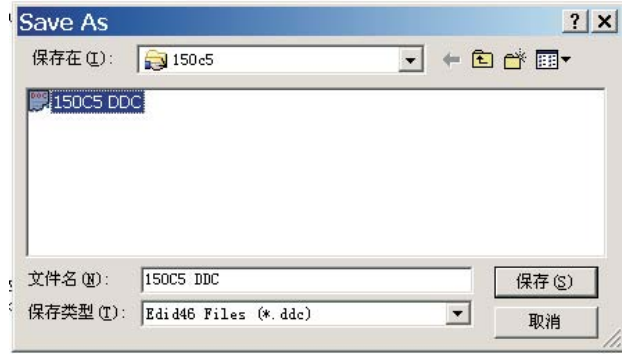

Fig. 26
1. Click (Save) icon (or click "file"-> "save as") from the tool bar and give a file name as shown in Fig. 26. The file type is EDID46 file (*.ddc) which can be open in WordPad. By using WordPad, the texts of DDC data & table (128 bytes, hex code) can be modified. If DDC TEXTS & HEX Table are completely correct, it can be saved as .ddc file to re-load it into DDC IC for DDC Data application.